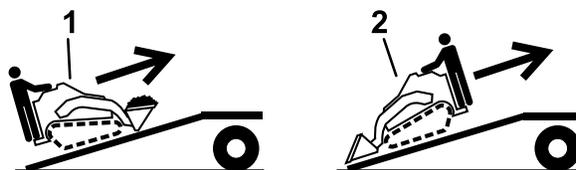

Figure 28
5. Load the machine onto the trailer with the heavy end up the ramp, carrying loads low (Figure 28).
1. Lower the ramp (Figure 28).